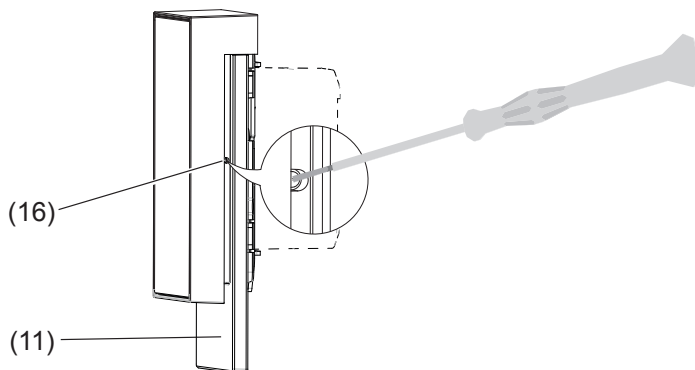

Figure 12: Dismantling
- Insert a narrow object, such as precision slotted screwdriver or rigid wire, into the dismantling opening (16) between the design frame (11) and display (Figure 12). When doing so, push back the spring loaded snap lock on the supporting ring (12) carefully and raise the device with the design frame slightly.
- Press fixtures for the design frame (15) inwards slightly and remove the design frame.